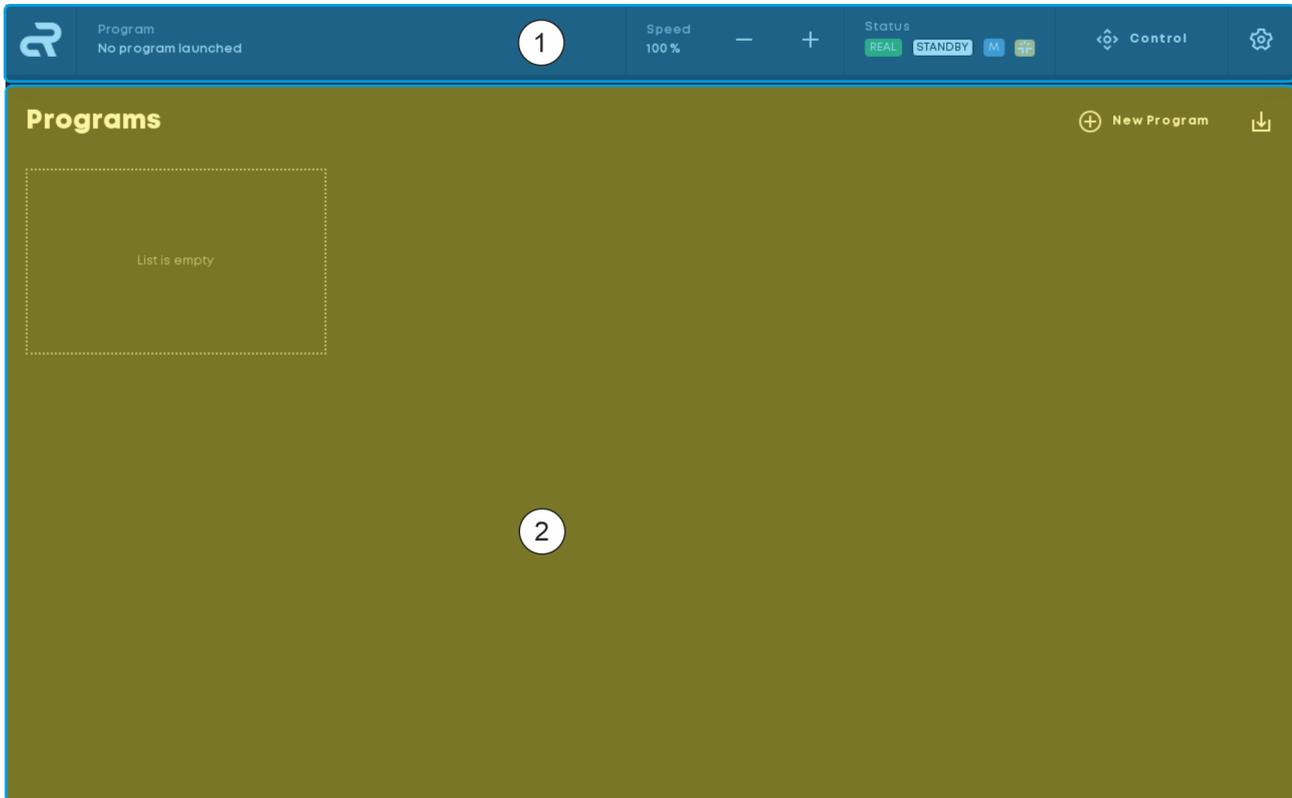

Fig. 1 User interface layout
- ① Navigation bar
- ② Work window
The user interface consists of the navigation bar Fig. 1/① and the work window Fig. 1/②.